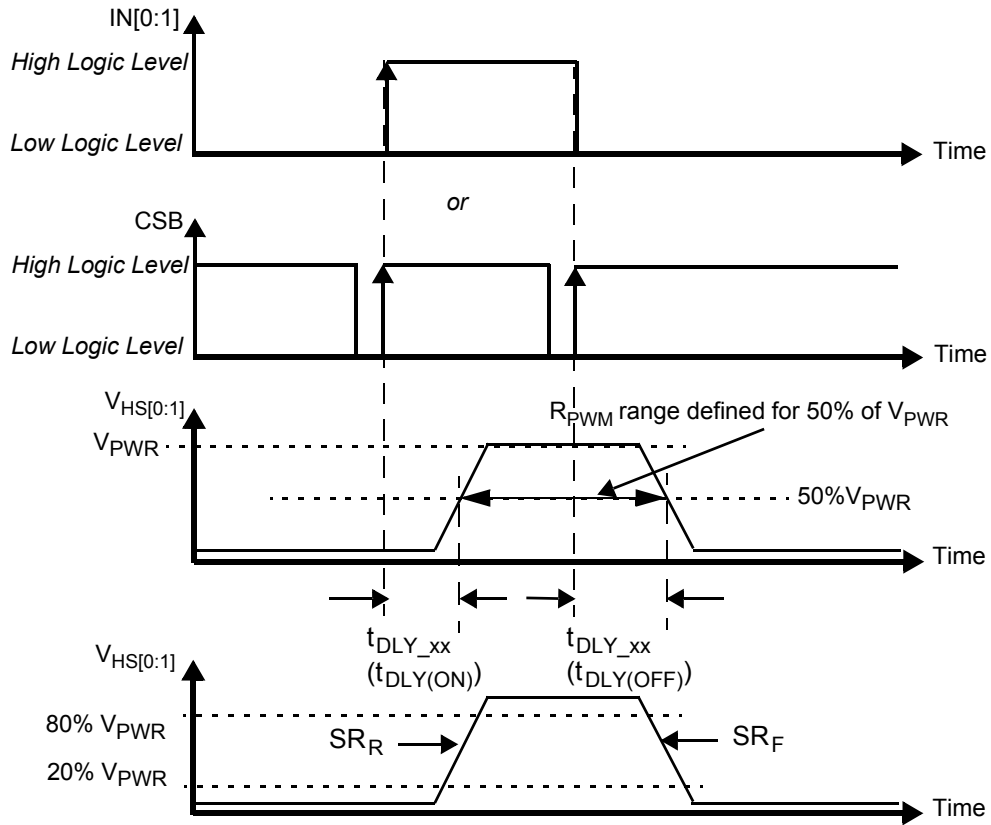
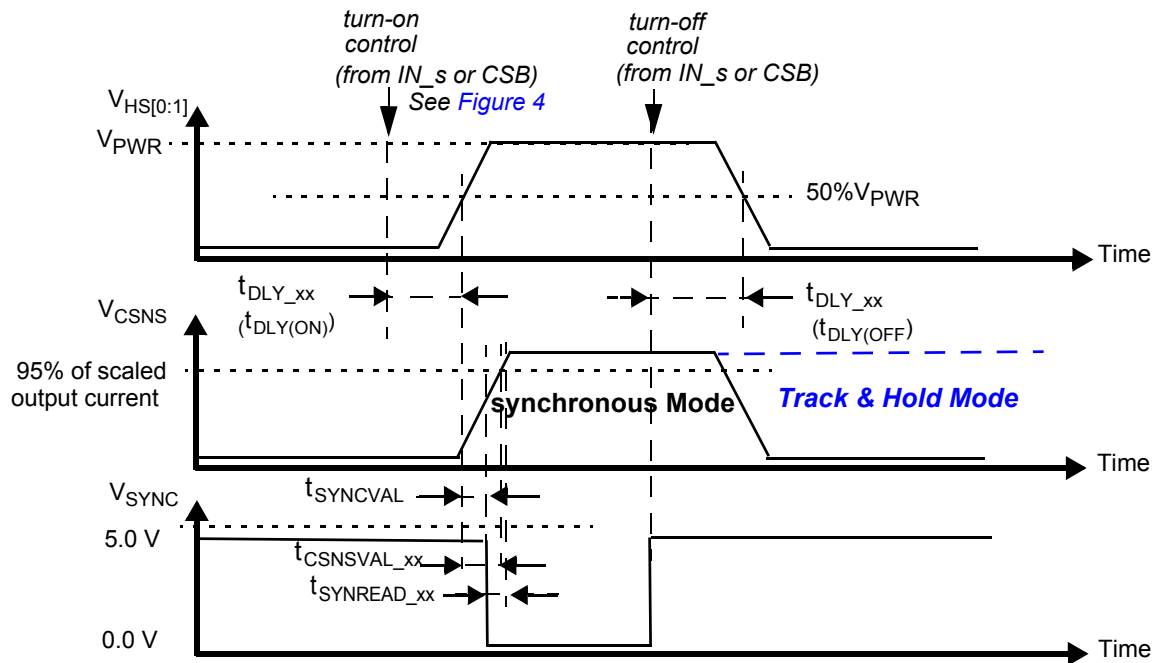

Figure 4. Output Voltage Slew Rate and Delay
Figure 9. Synchronous & Track-and-Hold Current Sensing Modes: Associated Delay & Settling Times
30. Rising and Falling edge slew rates specified for a 20 to 80% voltage variation on a 10 Ω resistive load (see Figure 4).
32. Time required to switch off the channel after detection of overtemperature (OT), overcurrent (OC), SC or UV error (time measured between start of the negative edge on the FSB pin and the falling edge on the output voltage until $V(\text{HS}[0:1]) = 50\%$ of V_{PWR}).
34. Settling time ($= t_{\text{CSNSVAL_XX}}$), SYNC output signal delay ($= t_{\text{SYNCVAL_XX}}$) and Read-out delay ($= t_{\text{SYNREAD_XX}}$) are defined for a stepped load current using a 10 Ω resistive load for CSNS_RATIO_s = 0. (see Figure 9 and Output Current Monitoring \(CSNS\)).
The CS pin allows independent current monitoring of channel 0 or channel 1 up to the steady-state overcurrent threshold. It can also be used to sense the device temperature. The different functions are selected by setting bits CSNS1_en and CSNS0_en to the appropriate value (Table 22). When the CSNS pin is sensed during switch-off in the (optional) track & hold mode (see Figure 9), it outputs the scaled value of the load current as it was just before turn-Off. When several devices share the same pull-down resistor, the CSNS pins of devices, the current of which is not monitored, must be tri-stated. This is accomplished by setting CSNS0_en = 0 and CSNS1_en = 0 in their GCR register (Table 11). Settling time ($t_{CSNSVAL_XX}$) is defined as the time between the instant at the middle of the output voltage's rising edge ($HS[0:1] = 50\%$ of V_{PWR}), and the instant at which the voltage on the CSNS pin has settled to $\pm 5.0\%$ of its final value. Anytime an overcurrent window is active, the CSNS pin is disabled (see Overcurrent Detection on Resistive and Inductive Loads). The current and temperature sensing functions are unavailable in Fail-safe mode and in Normal mode when operating without the V_{DD} supply voltage. In order to generate a voltage output, this pin requires a pull-down resistor ($R(CSNS) = 1.0$ k Ω typ. and $470 < R(CSNS) < 10$ k). When the current sense resistor connected to the CSNS pin is disconnected, the CSNS voltage is clamped to $V_{CL(CSNS)}$. The CSNS pin can source currents up to about 5.6 mA.
To synchronize current sensing with an external process, the SYNC signal can be connected to a digital input of an external MCU. An open-drain pull-down on SYNC indicates that the current sense signal is accurate and ready to be read. The current sense signal on the CSNS pin has the specified accuracy $t_{SYNREAD_XX}$ seconds after the falling edge on the SYNC pin (Figure 9) and remains valid until a rising edge is generated. The rising edge that is generated by the SYNC pin at the turn-OFF instant (internal or external) may also be used to implement synchronization with the external MCU. Parameter t_{SYNVAL_XX} is defined as the time between the instant at the middle of the output voltage rising edge ($HS[0:1] = 50\%$ of V_{PWR}), and the instant at which the voltage on the SYNC-pin drops below 0.4 V (V_{SOL}). The SYNC pins of different devices can be connected together to save micro-controller input channels. However, in this configuration, the CSNS of only one device should be active at a time. Otherwise, the MCU is not be able to determine the source of the SYNC signal. The SYNC pin requires an external pull-up resistor to V_{DD} .